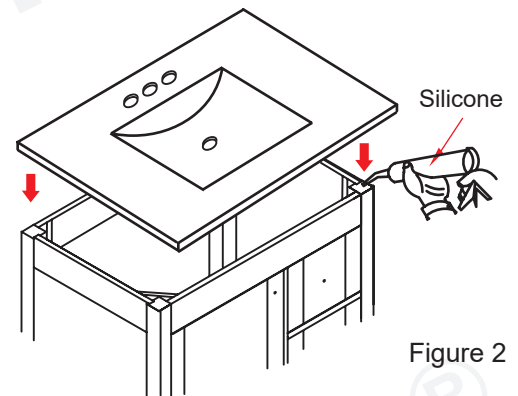

Figure 2
INSTALLATION (with separate backsplash, figure 2 and 3)
- 2) Apply silicone caulk/sealant to all four corners of the vanity. Figure 2.
- 3) Place the vanity top on the vanity base and assure it is aligned on all edges. Figure 2.
- 4) Put a small bead of silicone across the back side of the backsplash. Figure 2.